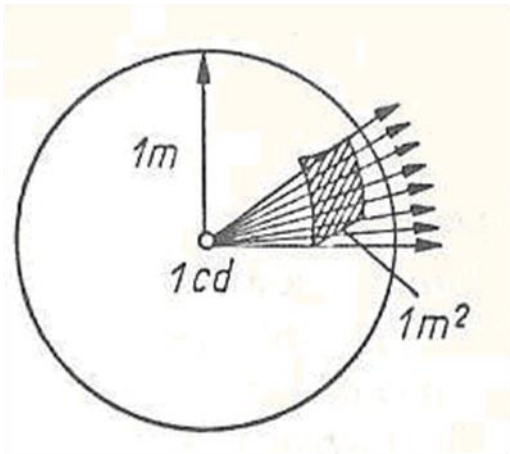

Fig. PF-7-1-2 Definition of the Steradian
- This concept is shown in **Fig. PF-7-1-2** for a 1 m radius of the sphere. Since the area of the sphere is $4\pi r^2$ then the luminous flux of the point light source is 4π lumens.